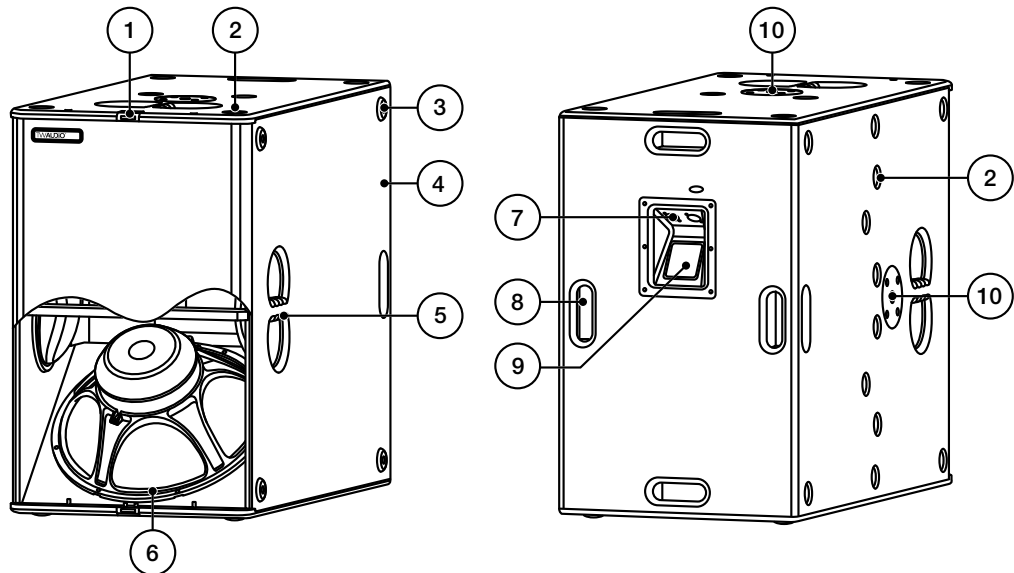

Figure 2.1 - Overview
Make sure that the maximum load of 50kg / 110lbs for the M20 pole mount flange is not exceeded! Figure 2.1 – Item 10.
The M20 pole mount flange (figure 2.1- item 10) is not designed for side forces once mounted – do not apply any pressure from the sides.
Please note that only centered loads are allowed to be placed on the M20 pole mount flange – Figure 2.1 – Item 10.